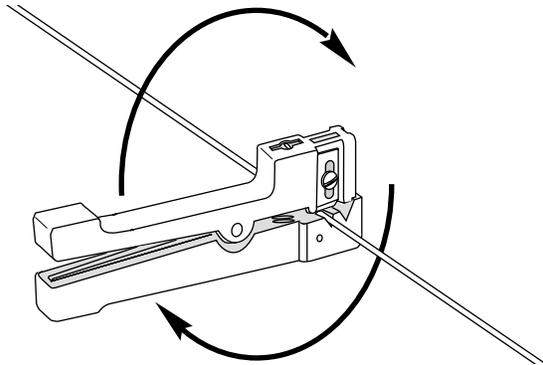

Figure 19
- Use your other hand to rotate the tool around the buffer tube two to three complete turns to score it (Figure 19). Remove the tool from the buffer tube.